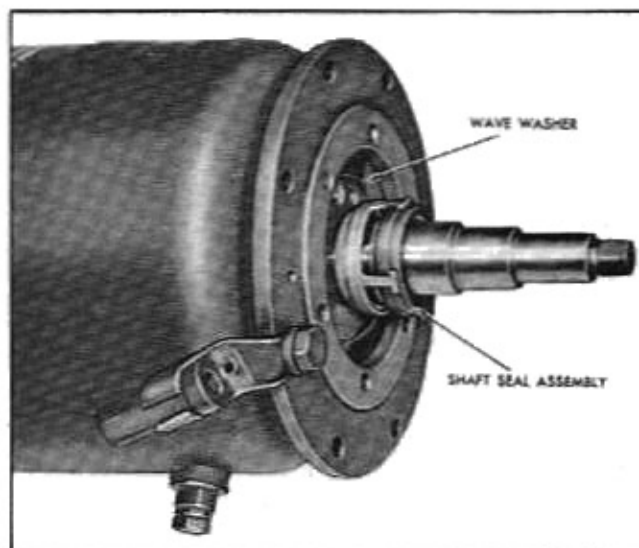

Fig. 7-48 Location of Shaft Seal in Position
2. Remove six (6) Phillips head screws behind rubber insulator which secure coil housing to compressor (loosen screws by tapping center of screw with punch or with Phillips screw driver bit). If screws were damaged during removal, obtain new screws.
3. Remove coil housing (Fig. 7-48).